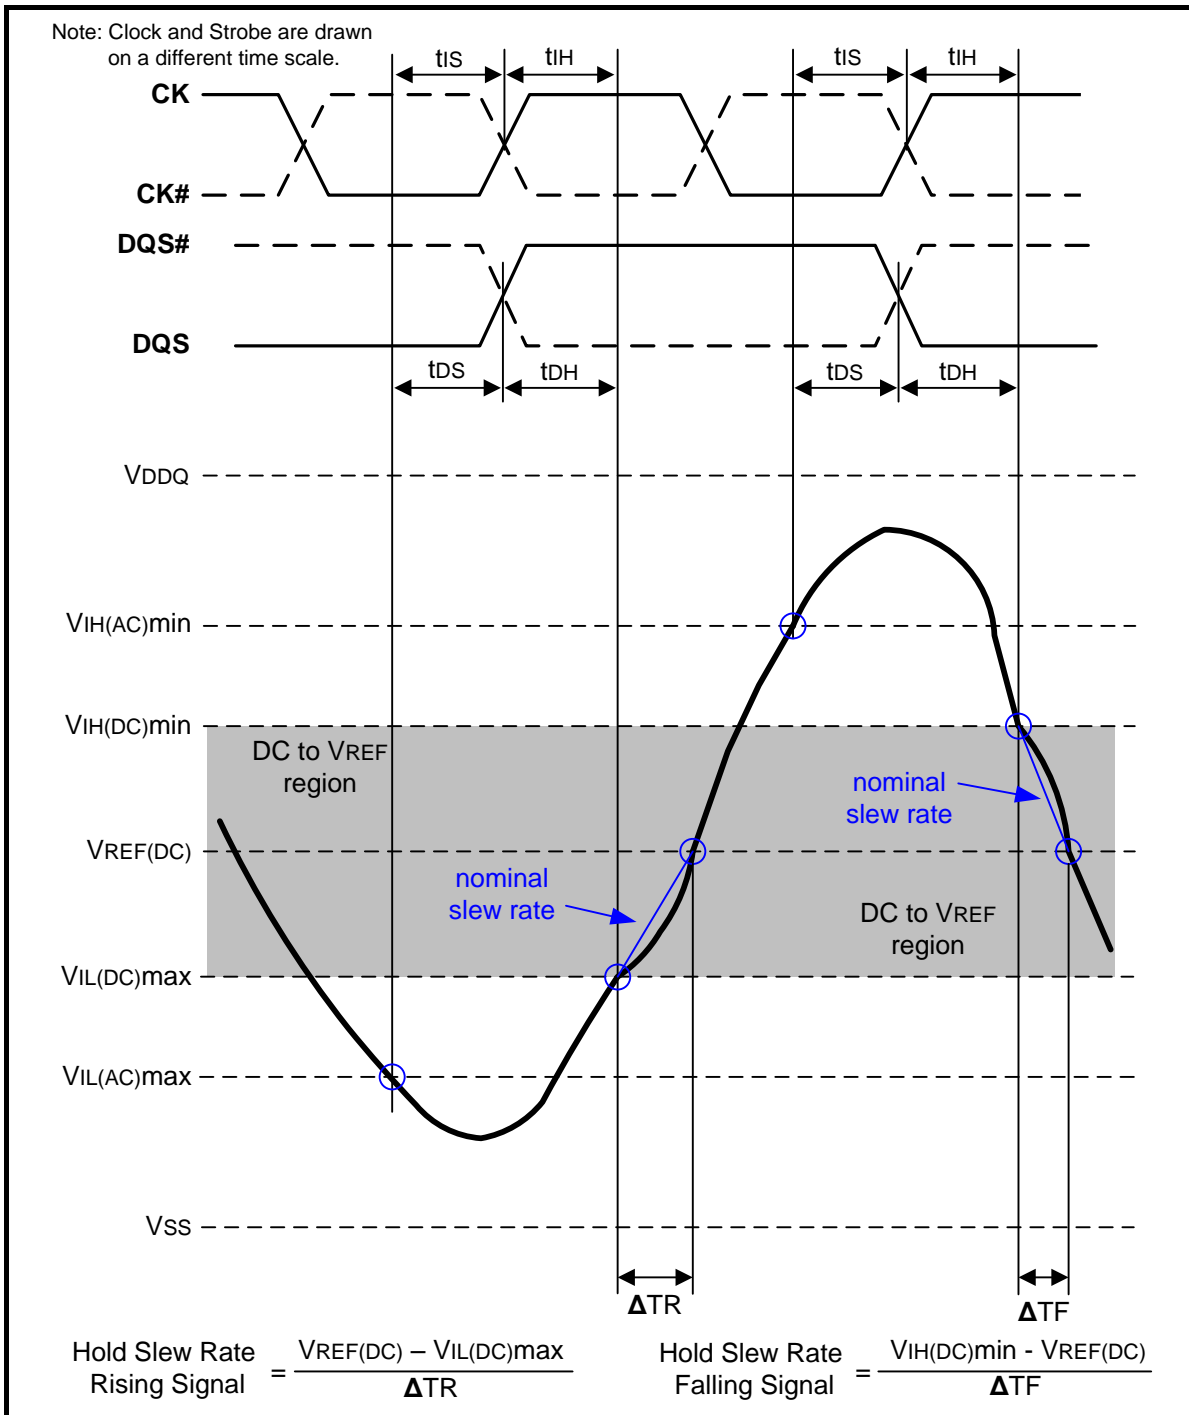

Figure 108 – Illustration of nominal slew rate for hold time tDH (for DQ with respect to strobe) and tIH (for ADD/CMD with respect to clock)
Hold ( $t_{IH}$ ) nominal slew rate for a rising signal is defined as the slew rate between the last crossing of  $V_{IL(DC)max}$  and the first crossing of  $V_{REF(DC)}$ . Hold ( $t_{IH}$ ) nominal slew rate for a falling signal is defined as the slew rate between the last crossing of  $V_{IH(DC)min}$  and the first crossing of  $V_{REF(DC)}$ . If the actual signal is always later than the nominal slew rate line between shaded 'DC to VREF(DC) region', use nominal slew rate for derating value (see Figure 108). If the actual signal is earlier than the nominal slew rate line anywhere between shaded 'DC to VREF(DC) region', the slew rate of a tangent line to the actual signal from the DC level to VREF(DC) level is used for derating value (see Figure 110).
Hold (tDH) nominal slew rate for a rising signal is defined as the slew rate between the last crossing of VIL(DC)max and the first crossing of VREF(DC). Hold (tDH) nominal slew rate for a falling signal is defined as the slew rate between the last crossing of VIH(DC)min and the first crossing of VREF(DC) (see Figure 108). If the actual signal is always later than the nominal slew rate line between shaded 'DC level to VREF(DC) region', use nominal slew rate for derating value. If the actual signal is earlier than the nominal slew rate line anywhere between shaded 'DC to VREF(DC) region', the slew rate of a tangent line to the actual signal from the DC level to VREF(DC) level is used for derating value (see Figure 110).